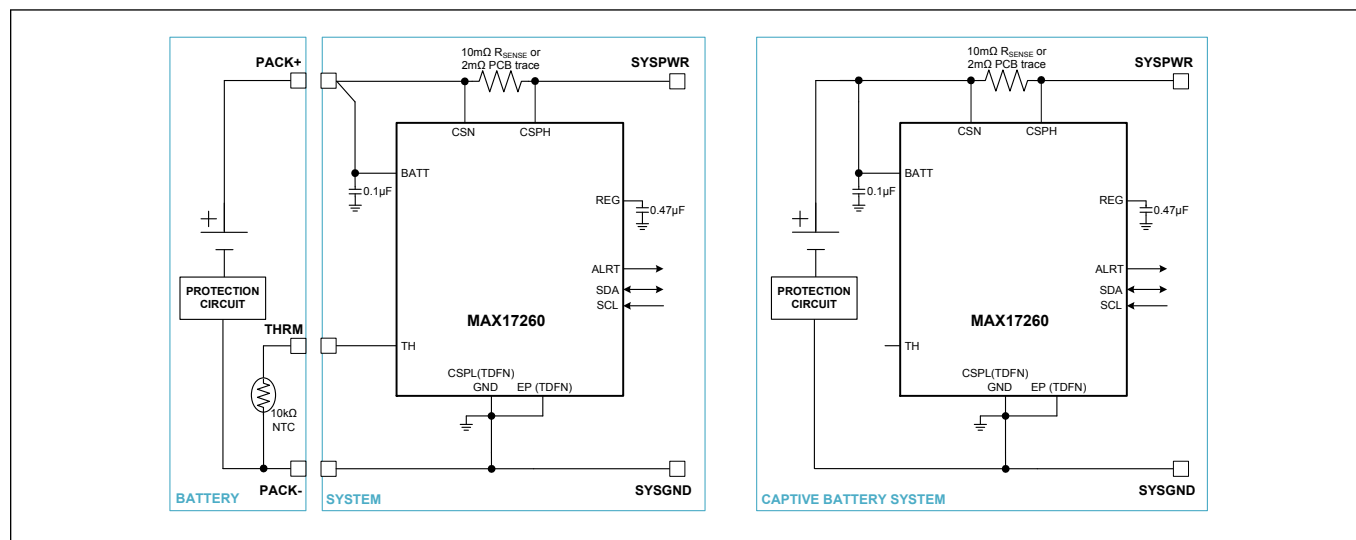

Figure 6. High-Side Current Measurement Typical Applications Circuit
**Figure 6** shows the typical application circuit for high-side current measurement. In this configuration, tie the CSN pin to the battery pack positive terminal. Connect a desired sense resistor or PCB trace across CSN and CSPH.